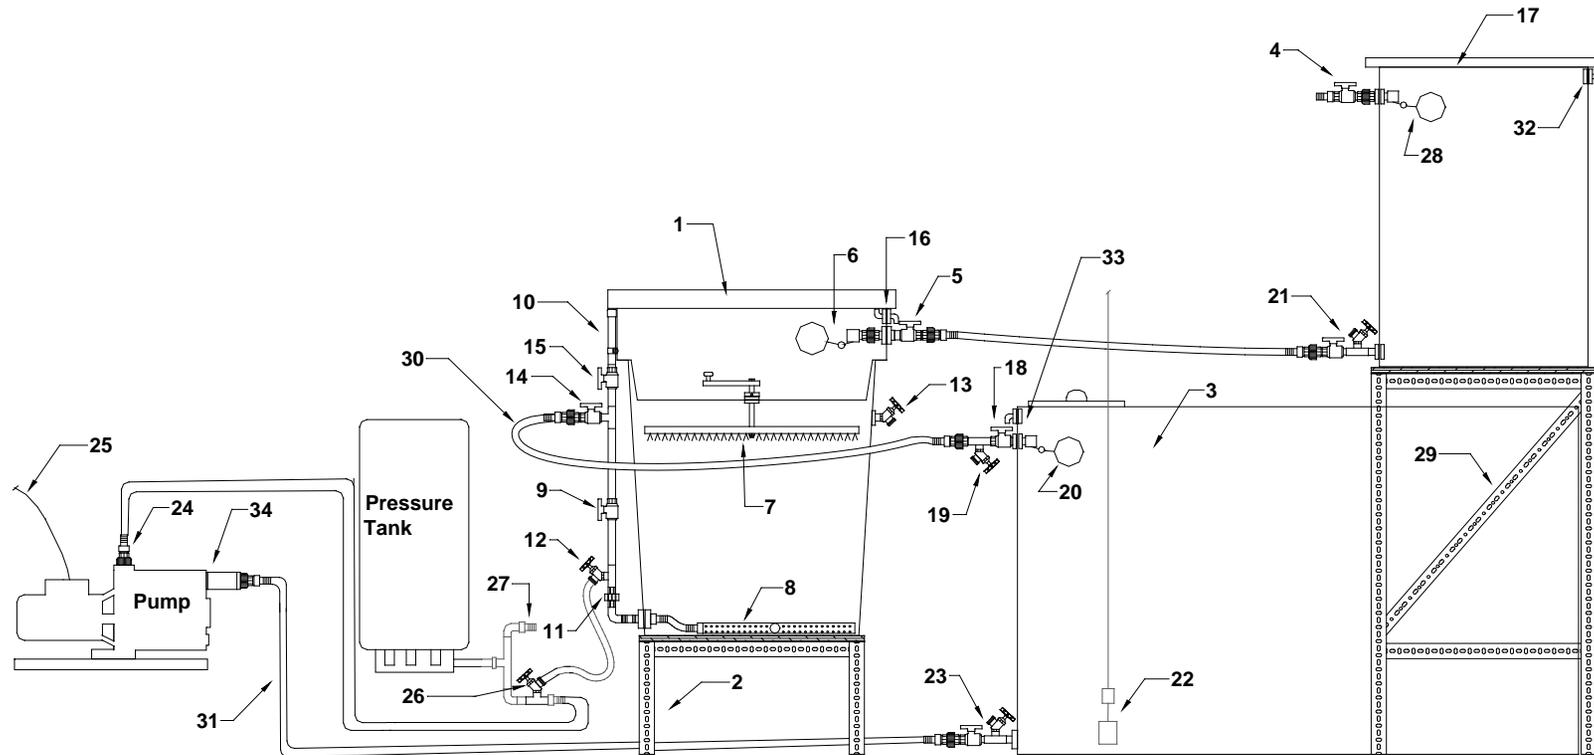

Figure 3-2 Automated System Layout
- Ensure you have all the required parts and materials for assembling the system (figure 3.2).
- Refer to Figure 3-2 to find the locations for all system components.